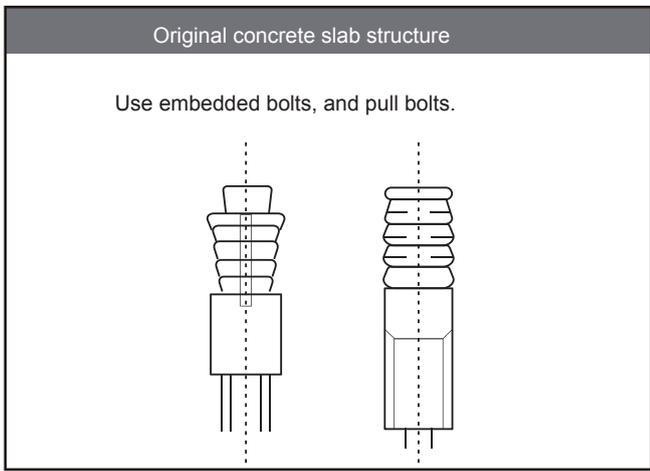

Figure 4.6
- Determine the location on the ceiling of the room or building roof for mounting, and drill four $\Phi 12\text{mm} \times 50\text{-}55\text{ mm}$ holes. Then embed and set up the expansion hook anchors (purchased accessory 4) in these holes. See Figure 4.6.